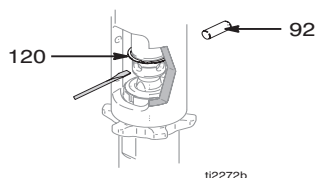
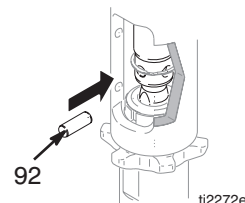

FIG. 8
FIG. 11
2. Fig. 8. Push retaining spring up; push out pin (92).
2. Fig. 11. Slowly pull engine starter rope until pump rod pin hole is aligned with hydraulic rod hole. Fig. 8. Push pin (92) into hole. Push retaining spring (120) into groove.